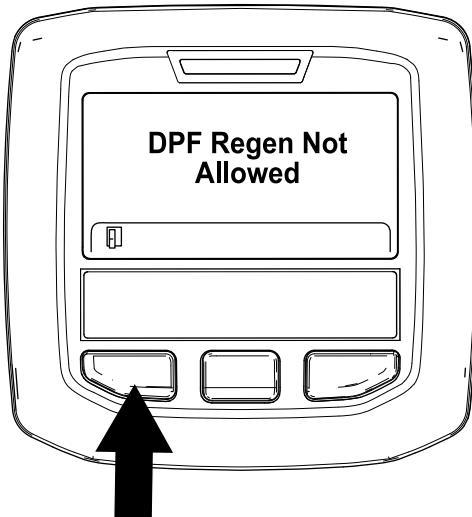

Figure 53
- If the regeneration process is not allowed by the engine computer, the “DPF Regen Not Allowed” message displays in the InfoCenter (Figure 53). Press the left button to exit to the home screen